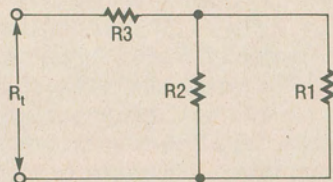

Fig. 2. This example resistor network should help clarify how tolerance values are affected by mathematical operations.
**Example.** Finally, to demonstrate the rules just derived, we'll calculate the total resistance of the series/parallel resistor network shown in Fig. 2. It is sug-